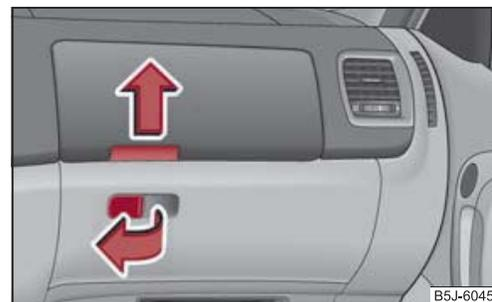

Fig. 80 Dash panel: Storage compartments on the front passenger side
- Pull the handle of the lid in direction of arrow ⇒ fig. 80 and fold it open.